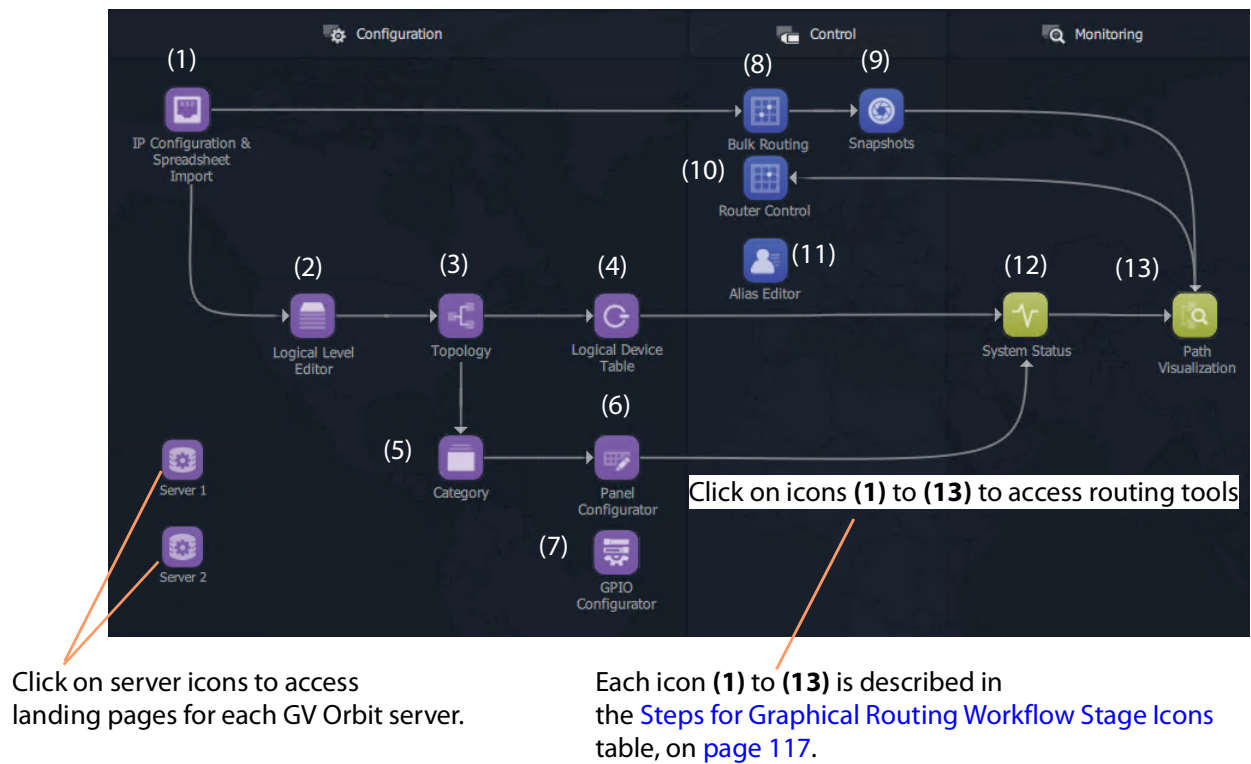

Fig. 3-26: Graphical Routing Workflow Stage - with Icons (1) to (13)
Steps relating to icons in Figure 3-26 **Graphical Routing Workflow Stage - with Icons (1) to (13)**, on page 116
Steps relating to icons in Figure 3-26 **Graphical Routing Workflow Stage - with Icons (1) to (13), on page 116**
(11) Alias Editor